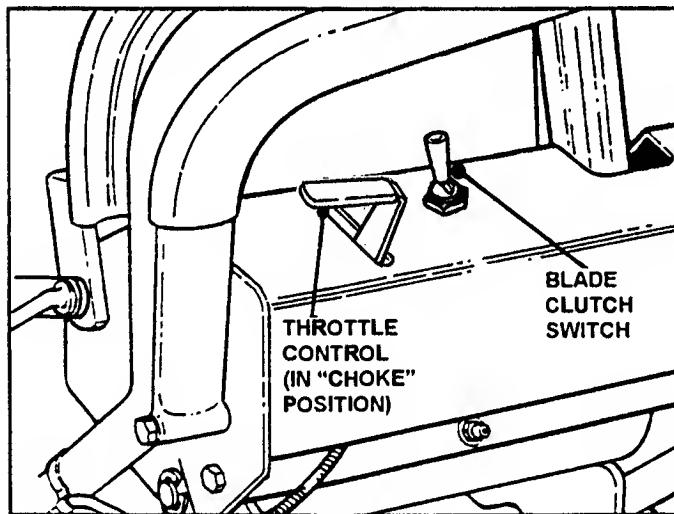

FIGURE 9
5. Move Throttle Control Lever to CHOKE position. See Figure 9. NOTE: Briggs engines have a remote choke located on the left side of tank bracket. Choke is not part of Throttle Control Lever.